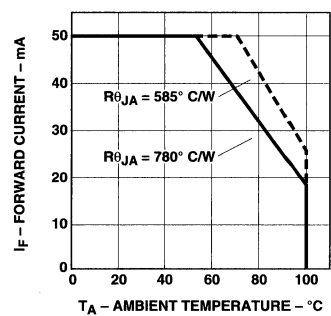

Figure 4. Maximum Forward Current vs. Ambient Temperature. Derating Based on T_{JMAX} = 130°C.
- Derate linearly as shown in Figure 4.